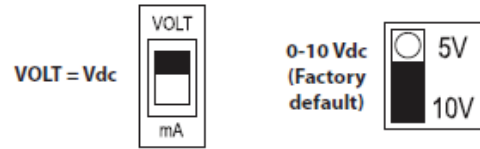

Fig. 72 – SAT/RH Configuration
- Verify that the sensor is set to provide a voltage output and the output voltage is set for 10V. See Fig. 72.